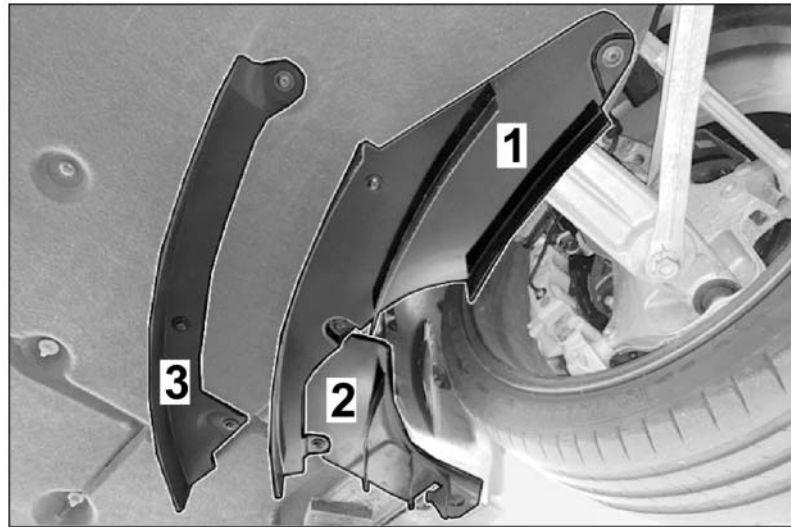

Figure 31
- Please use ⇒ *Figure 31* as a guide